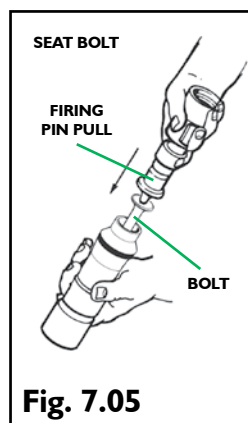

Fig. 7.05
- 2.1 Push bolt back into the muzzle using the domed end of the pull. (See Fig 7.05)